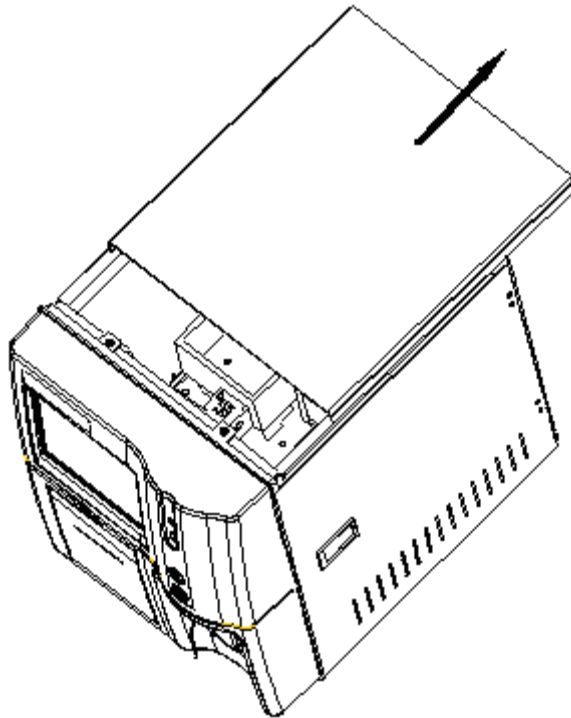

Fig. 3-1 Removing the cover
- Remove the aspiration tube on the inlet, replace the aspiration tube with a new one. Put a positioning tube (the thicker one) in one end of the new aspiration tube first, and then put in the fixing tube (the thickest one). Note that 1cm of the aspiration tube should be left outside of the positioning tube (as shown in Fig. 3-1).